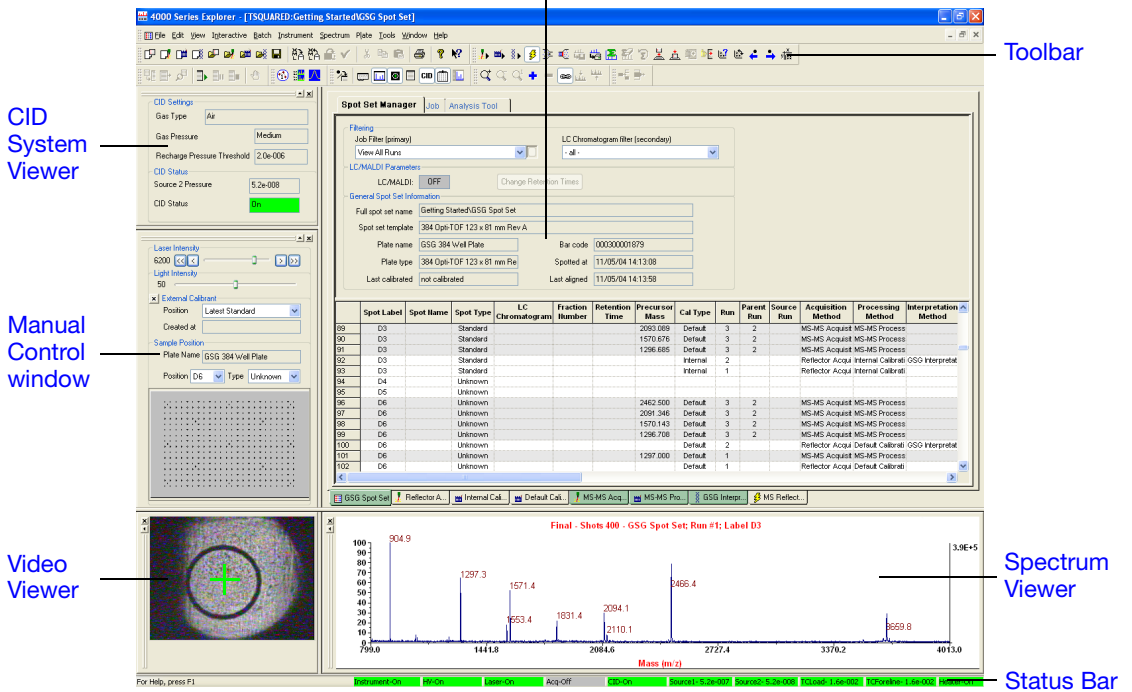

Figure 2-2 4000 Series Explorer™ Software Interactive Mode
This guide assumes that your 4800 MALDI TOF/TOF™ Analyzer has been installed by an Applied Biosystems Technical Representative, that a Source Model Calibration has been performed, and that the source vacuum pressure is less than  $5 \times 10^{-7}$  torr. Source pressure is displayed in the status bar (Figure 2-2 on page 2-5).
**Parts of the Software in Interactive Mode** The default layout of the 4000 Series Explorer™ software in interactive mode is shown in Figure 2-2.